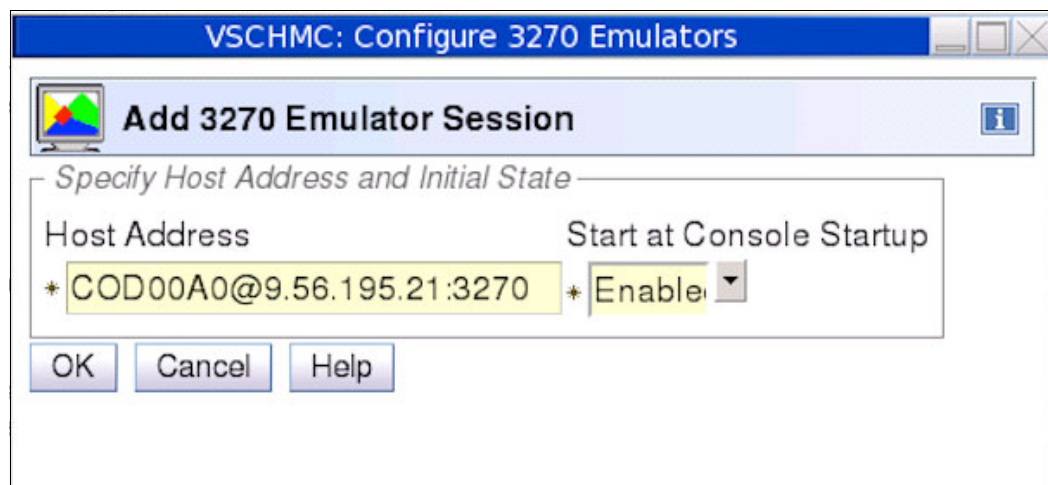

Figure 7-28 3270 Emulation Configuration
4. The New Session panel opens and we enter the parameters by using the format: LU Name@IP address:port ID. Then, we select **OK** to open the TN3270 session, as shown in Figure 7-28.